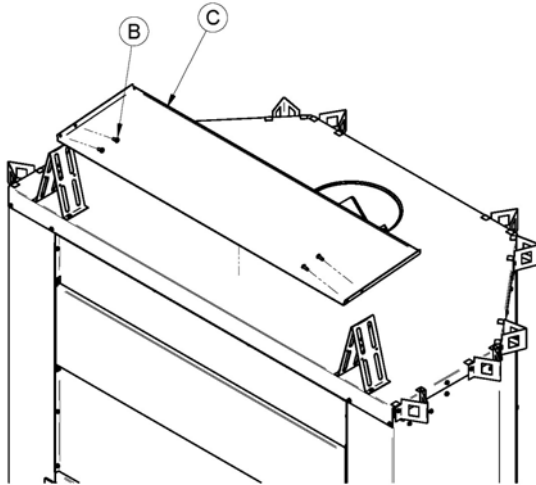

Figure 6
3. As illustrated in Figure 6 and 7, position the heat shield (C) between the spacers previously installed with the folds facing up. Align the holes of the shield with the ones of the left and right spacer and secure it with 4 screws (B).